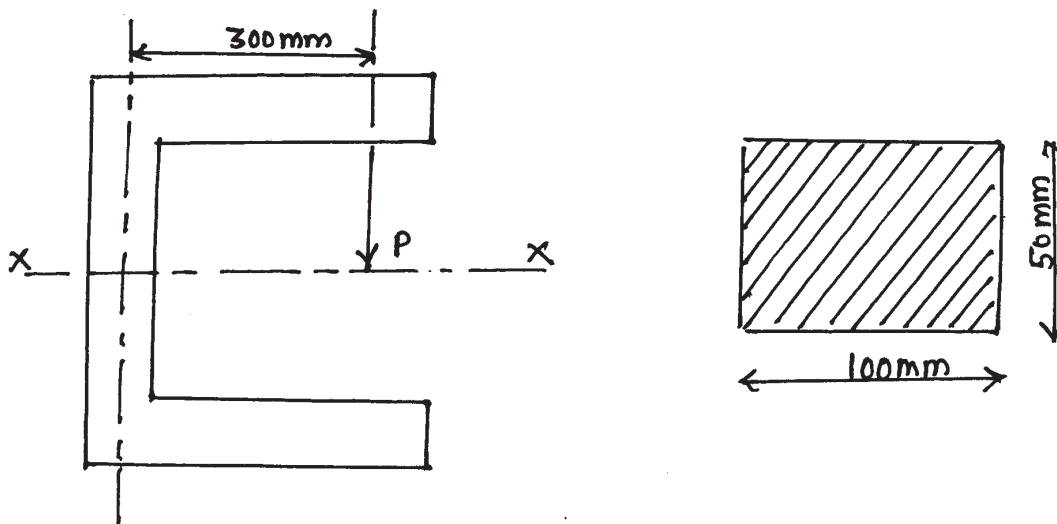

Fig. No. 2
- d) A rectangular block of size 50×100 mm is made into 'C' shape and applying load of 40 kN at point. Calculate resultant stresses develop at section x-x, refer Figure No. 2.